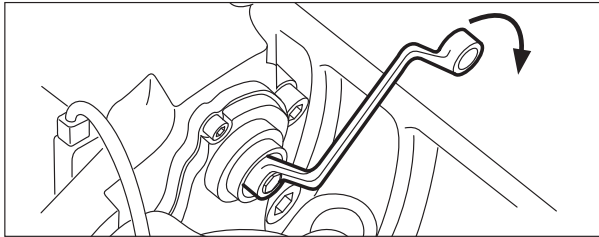

FIGURE 40 - RUNNING CLEARANCE ADJUSTMENT
- 5.2.18 Using a 10 mm., six-point box wrench, turn the Shear Adapter (61) **clockwise** until the pads contact the rotor. Note: Do not use an open-ended wrench as this may damage the adapter. (See Figure 40).